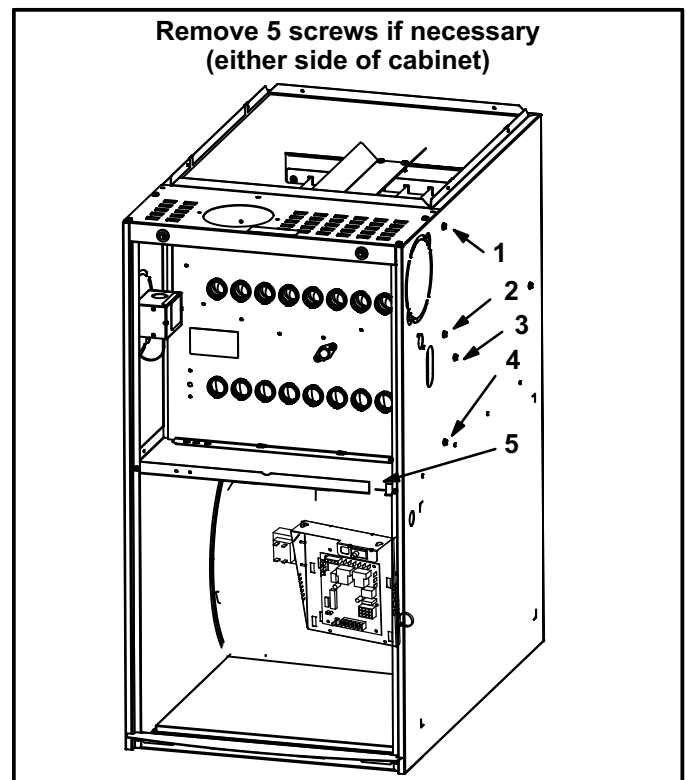

FIGURE 19
- 10 - Remove heat exchanger. It may be necessary to spread cabinet side to allow more room. If so, remove five screws from the left side or right side of cabinet. See figure 19.